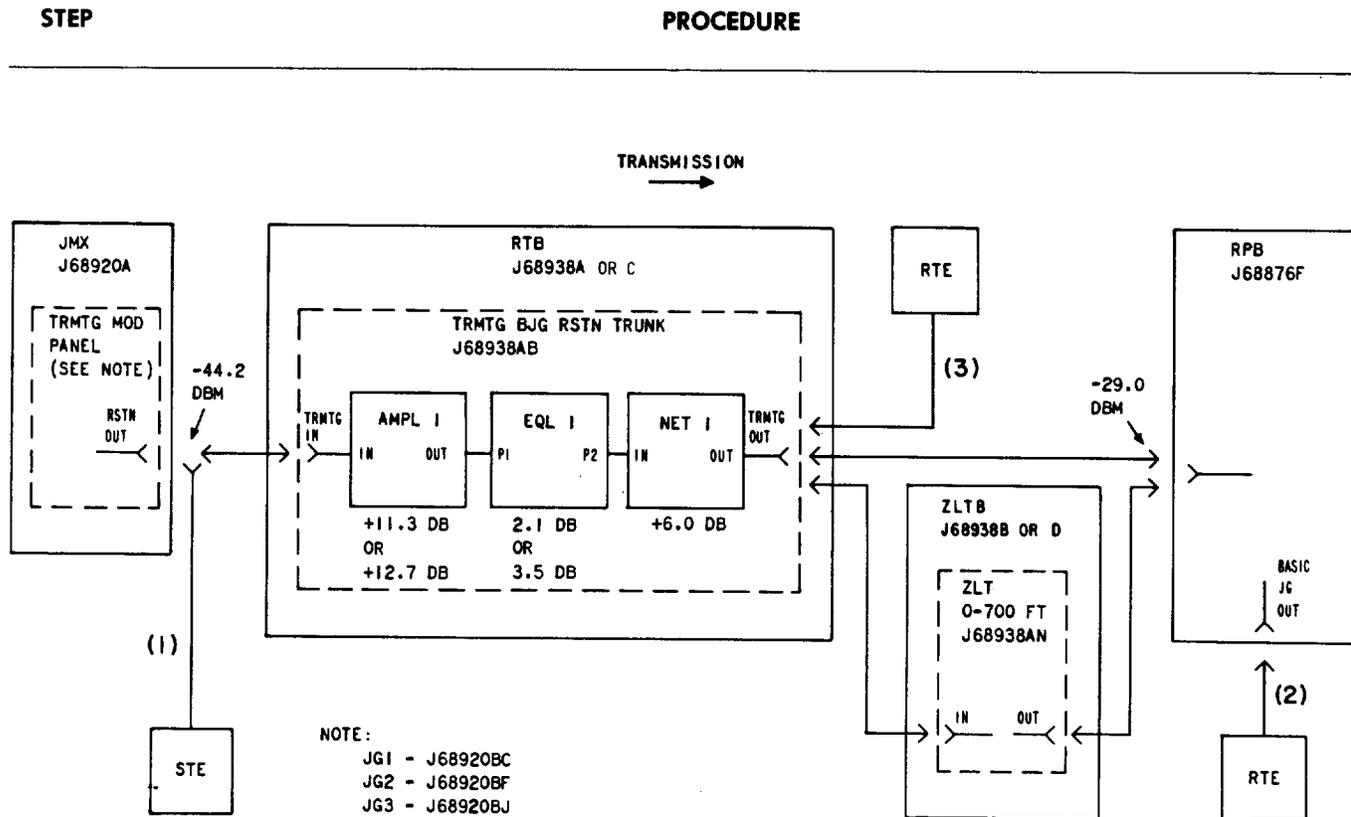

Fig. 2—Transmitting BJB Restoration Trunk Circuit
4	By using office records, locate the transmitting modulator panel of interest at the JMX and remove the cable from the RSTN OUT jack. Connect the STE to the cable [Fig. 2, patch (1)].
5	Connect the RTE to the BASIC JG OUT jack at the RPB [Fig. 2, patch (2)].
9	Move the RTE to the OUT jack at the RTB [Fig. 2, patch (3)].
- 18 If the requirement in Step 17 is met, move the RTE back to the RPB [Fig. 2, patch (2)], restore the coax to the OUT jack at the RTB, and go to Step 19; if otherwise, troubleshoot the trunk between the RTE and the STE and go back to Step 11.